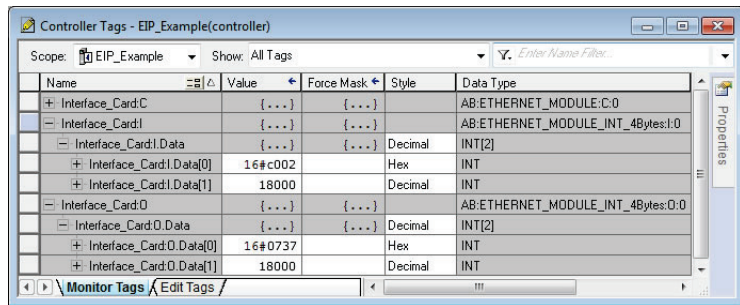

Figure 46: Controller Tags for I/O Access
- 8) By double-clicking “Controller Tags” in the project tree, it is possible to view the newly-added tags. Refer to Figure 46. The Interface_Card:C configuration tag is unused, the Interface_Card:I tag allows viewing of the input data, and the Interface_Card:O tag allows modification of the output data. These tags will be synchronized with the inverter at the rate that was established for the module’s RPI.
We can directly interact with these tags in order to control and monitor the inverter. In Figure 46, for example, we can see that the first 16-bit word of